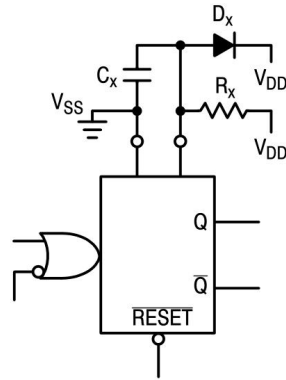

Figure 11. Use of a Diode to Limit Power Down Current Surge
5. If C_X > 15 μF, use discharge protection diode per Fig. 11.
Large capacitance values can cause problems due to the large amount of energy stored. When a system containing the XD14538 is powered down, the capacitor voltage may discharge from V_{DD} through the standard protection diodes at pin 2 or 14. Current through the protection diodes should be limited to 10 mA and therefore the discharge time of the V_{DD} supply must not be faster than $(V_{DD}) \cdot (C) / (10 \text{ mA})$. For example, if $V_{DD} = 10 \text{ V}$ and $C_X = 10 \mu\text{F}$, the V_{DD} supply should discharge no faster than $(10 \text{ V}) \times (10 \mu\text{F}) / (10 \text{ mA}) = 10 \text{ ms}$. This is normally not a problem since power supplies are heavily filtered and cannot discharge at this rate. When a more rapid decrease of V_{DD} to zero volts occurs, the XD14538 can sustain damage. To avoid this possibility use an external clamping diode, DX, connected as shown in Fig. 11.